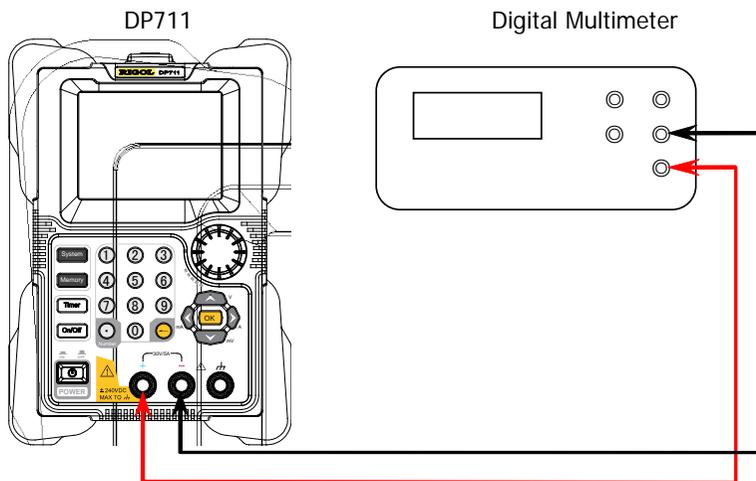

Figure 2-6 Connect DP711 and Digital Multimeter (Current)
- (1) Ensure that DP711 has been warmed up for at least 30 minutes. Use the test probe to connect the output terminals of DP711 to the current input terminals of the digital multimeter, as shown in Figure 2-6.
- (2) Press **On/Off** on the front panel of DP711 to turn on the channel output.
- (3) Turn on the digital multimeter. Select the DC current (DCI) measurement function and set the range to "Auto" and the scale to "A".
- (4) Enter the DP711 calibration page, and select "I ADC", then press the Right arrow key. The cursor switches to ID of the first calibration point.
- (5) Press **OK**. The Meas value (measurement value) of the selected calibration point is highlighted and editable. Then, use the num key or the knob to enter the measurement value of the digital multimeter.
- (6) Press **OK**, and the measurement value will be written into the system. Thus, you have completed the calibration for the selected calibration point.
- (7) Select the rest of the calibration points according to the ID sequence, then repeat Step (5) and (6) until you complete the calibration operation for all the calibration points.
- (8) Press the Down arrow key or use the knob to switch the parameter focus to "Save", then, press **OK** to save the current calibration data. Till now, you have completed the current ADC calibration.